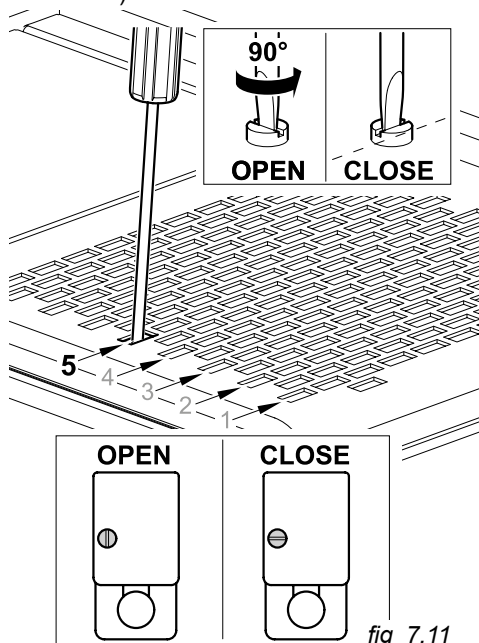

fig. 7.11
1. Insert a small blade screwdriver into the hole of the cup warmer shown in the figure 7.11, until you reach a screw tap. Rotate 90° anticlockwise (Fig. 7.11). This operation switches the steam wand into